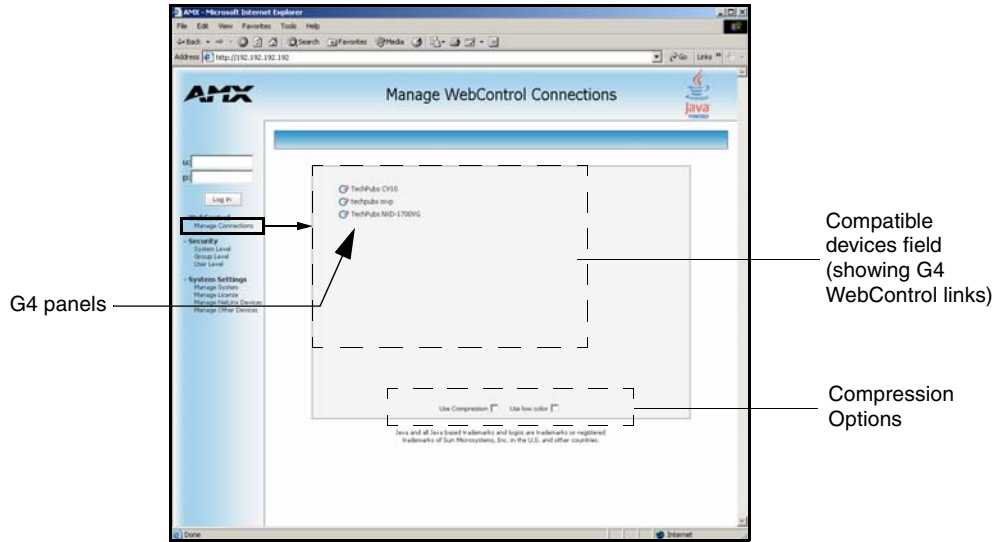

FIG. 45 Manage WebControl Connections page (populated with compatible panels)
5. This Manage WebControl Connections page (FIG. 45) is accessed by clicking on the **Manage connections** link (*within the Web Control section within the Navigation frame*). Once activated, this page displays links to G4 panels running the latest G4 Web Control feature (*previously setup and activated on the panel*).